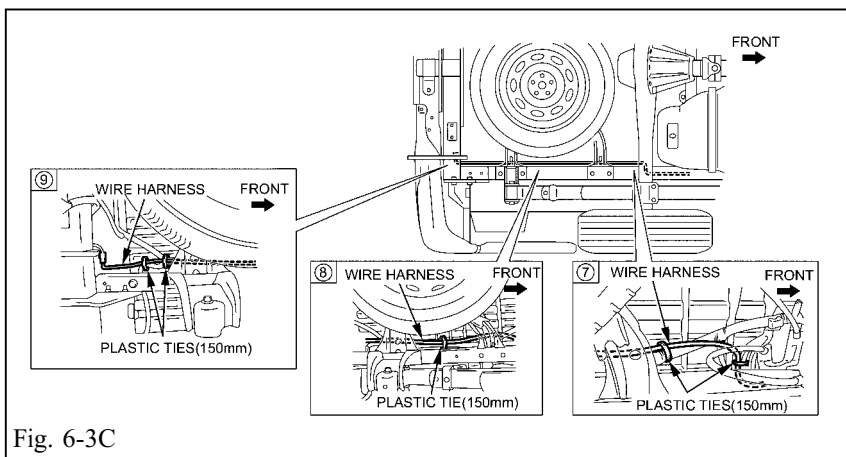

Fig. 6-3C
- (2) Fix the wire harness so that it does not interfere with the brake pipe, fuel pipe, and others. (Fig. 6-3C)